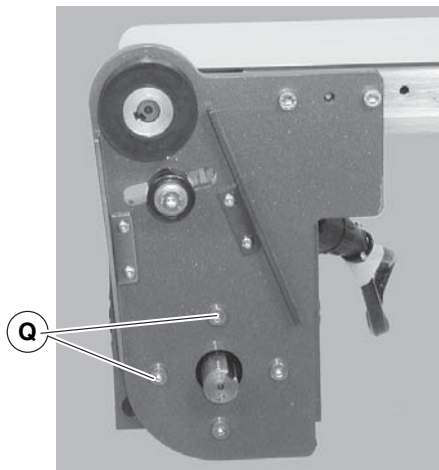

Figure 20
7. Remove four (4) gearmotor mounting screws (Figure 20, item Q). Remove gearmotor with adapter plate.
9. Install new gearmotor to adapter plate and mounting bracket. Tighten screws (Figure 20, item Q) to 103 in-lb (12 Nm).